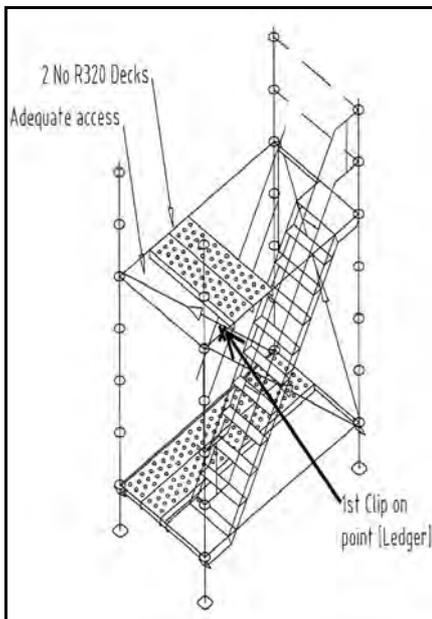

FIGURE 5.
10. Lift 1.4m erection decks into position at the 2m level above the installed stair unit lower landing (**See fig 5**). Attach harness to the ledger at 2m height on the guardrail side. Ascend to the erection platform using the guardrail and rosettes for hand and foot-holds.